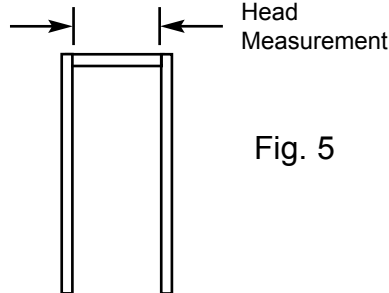

Fig. 5
6. Slide other jamb over into position and line up as above. Plumb and secure in place. (Fig. 5)